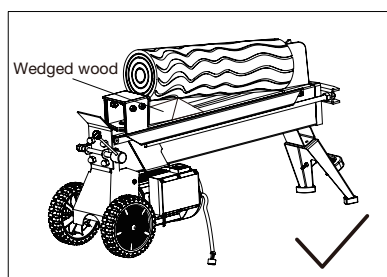

Fig. 5
2. After the log pusher moves back and completely stops at its starting position, insert a wedge wood under the jammed log (Fig. 5).